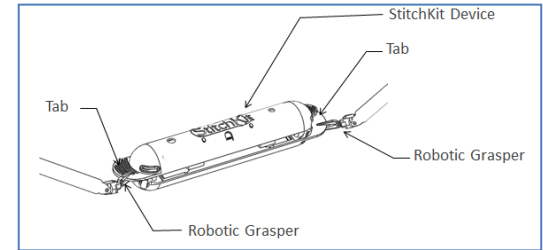

Figure 4 - Opening the StitchKit® Device using Robotic Graspers and tabs
- 5.1. Gently open the StitchKit® using the side tabs. (Figure 4)